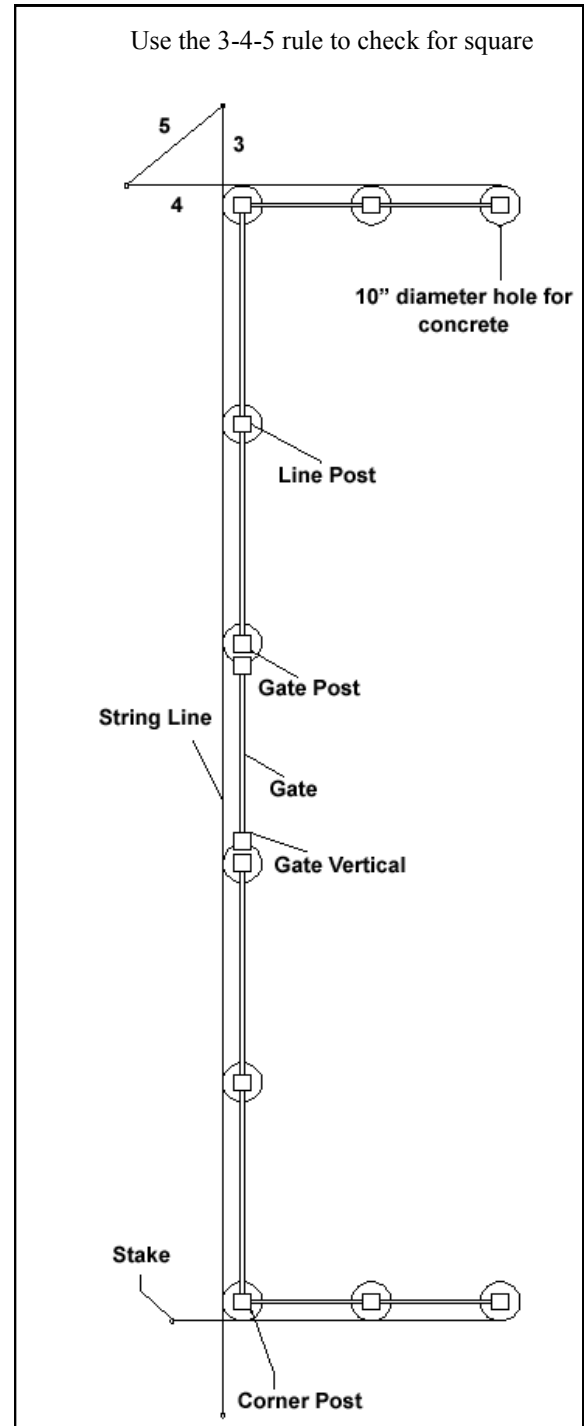

Figure 1
**Layout is important and proper placement of the posts is the key to easy installation (Figure 1).**